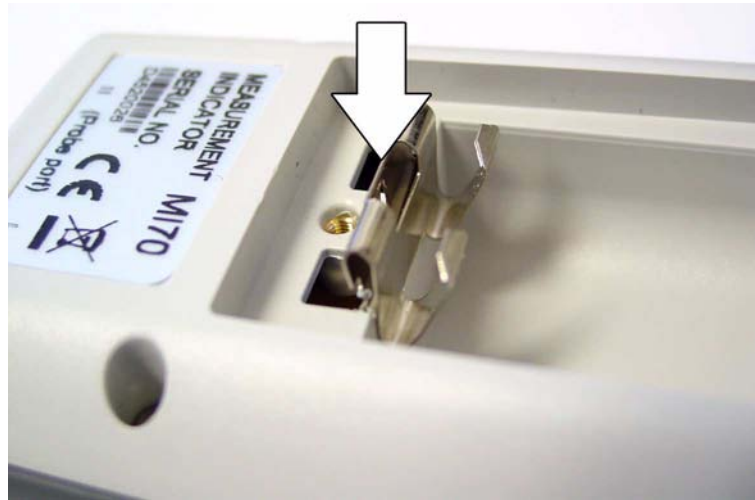

Figure 10 **Installing the Clip for AA Batteries**
2. Position the metallic clip as shown in Figure 10 on page 30, and push down on it to snap it into place. Note that you have to push quite hard.